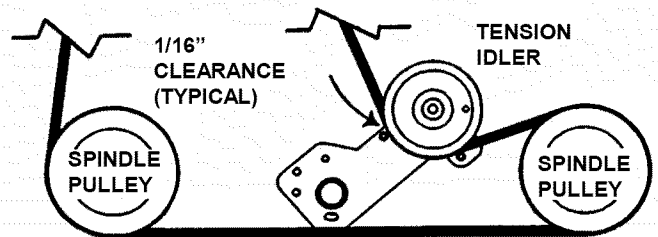

FIGURE 4.41
7. Adjust idler pulley belt guide if necessary to obtain 1/16" clearance between belt and belt guide. See Figure 4.41.